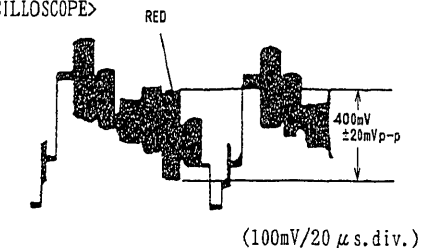

Fig. 2-20
(5) Chroma Gain Adjustment (Figs. 2-20, 2-21)
Press the [Ctrl] button and hold it down, then press the [U] and [D] keys so the red level is 400mV ± 20mVp-p. (Fig. 2-20)